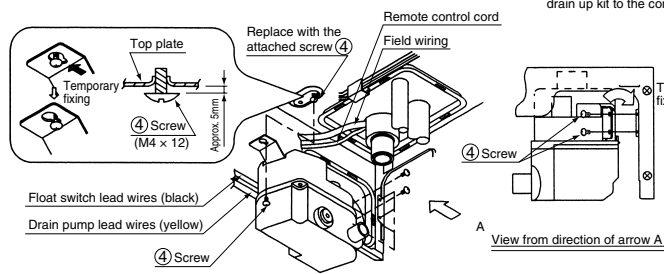
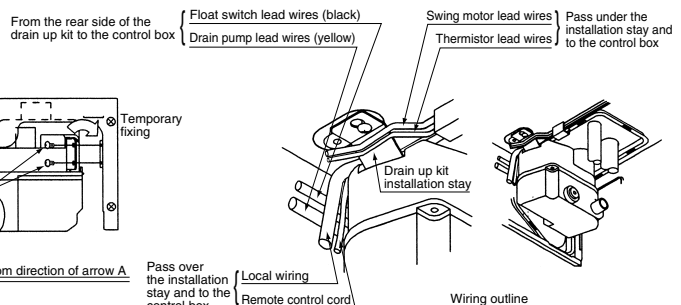

Figure 10
Figure 11
- (1) Remove the screws from the top of the indoor unit, and insert the attached screws ④ temporarily. Next, temporarily put the screwed clamps on either end of the drain up kit, and tighten the screws. (Figure 10) Take out the lead wires of drain pump and the float switch from the back of the drain up kit. Wire the local wiring as shown in (Figure 11).